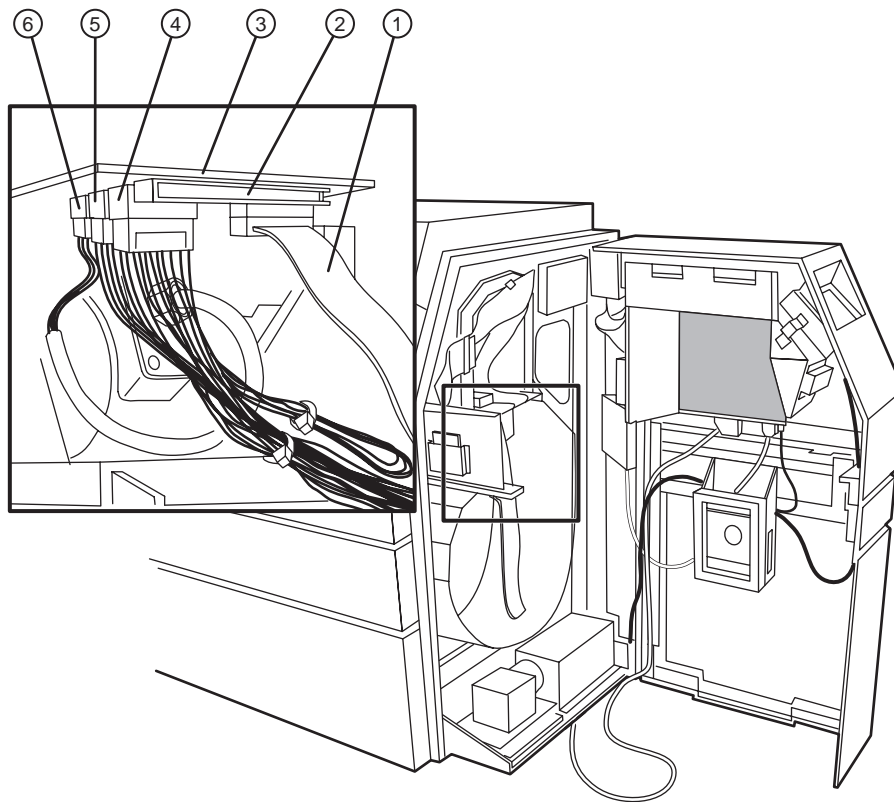

Figure 4-19 Carriage sensor driver module PCB (CSDM) (right side).
4. On the right side of the system, disconnect the flex cable, LDM cable, SGM sensors cable, SGM motors cable, digital encoder connector from the CSDM PCB. Refer to Figure 4-19.